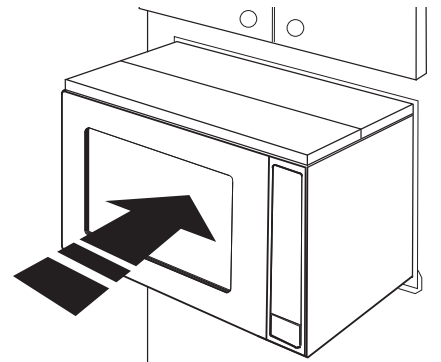

Figure 7
B. **CABINET INSTALLATION:** Place the oven adjacent to the wall or cabinet opening. Plug the power cord into the electrical outlet. Carefully guide the assembled oven into the prepared opening. Slide the oven on the Bottom Duct assembly. See Figure 7.